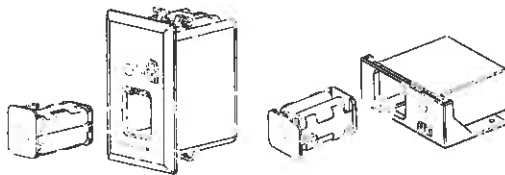

Figure 5
- 6 Slide the battery compartment into the Remote Receiver. See Figure 5.